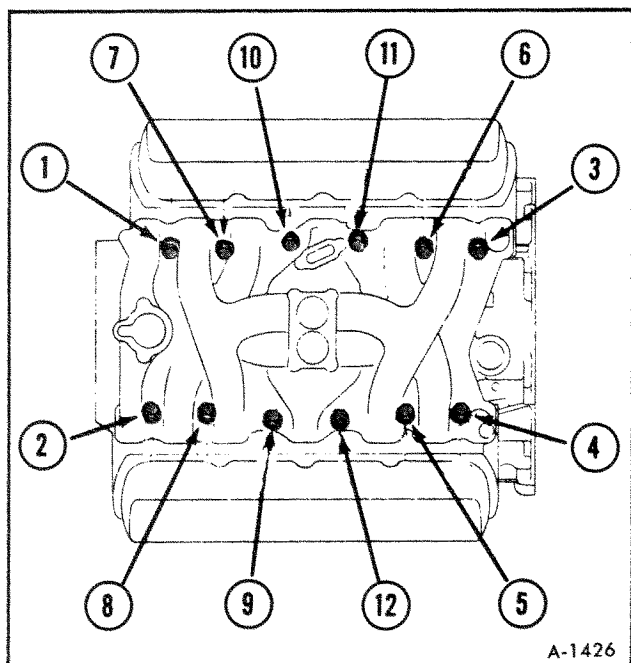

Figure 14—Intake Manifold Torque Sequence
2. Install intake manifold. Lubricate bolts entirely with engine oil, install and torque to 15 ft. lbs. in sequence. See Figure 14. Retorque in sequence to 40 ft. lbs.